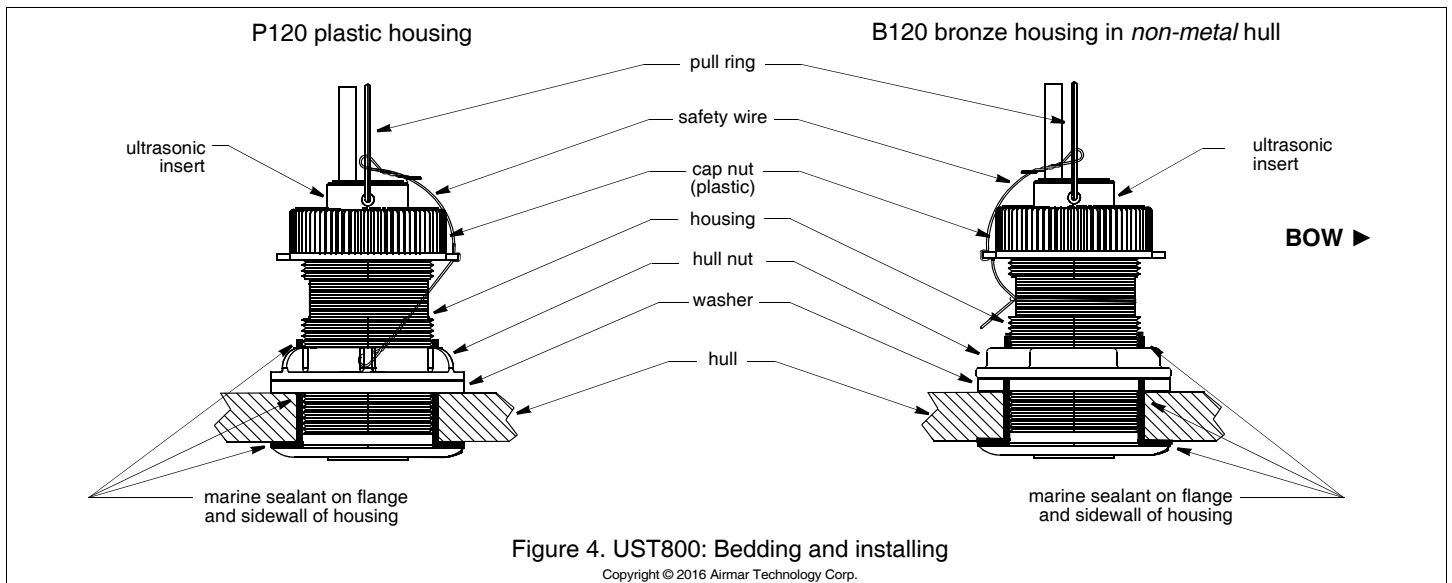

Figure 4. UST800: Bedding and installing
Apply a 2mm (1/16") thick layer of marine sealant around the flange of the housing that contacts the hull and up the sidewalls of the housing (Figure 4 or 5). *The sealant must extend 6mm (1/4") higher than the combined thickness of the hull, washer, and hull nut.* This will ensure there is sealant in the threads to seal the hull and to hold the hull nut securely in place.
1. From outside the hull, push the housing into the mounting hole using a twisting motion to squeeze out excess sealant (Figure 4 or 5). *Align the arrow on the flange of the housing pointing forward toward the bow.* If the sensor is not installed on the centerline, angle the housing slightly toward the centerline to align it with the water flow.
**UST800** (Figure 4)
1. Remove the ultrasonic insert from the housing by removing the safety wire from the pull ring and the cap nut. Unscrew the cap nut (Figure 4).
4. Reattach the safety wire to prevent the blanking plug from backing out in the unlikely event that the cap nut fails or is screwed on incorrectly (Figure 4).
2. Remove the ultrasonic insert from the housing (Figure 4).
5. Slide the blanking plug into the housing. Seat it into place with a pushing twisting motion until the key fits into the notch in the housing. **Hand tighten** the cap nut. Do not over tighten. Reattach the safety wire (Figure 4).
9. Reattach the safety wire to prevent the ultrasonic insert/blanking plug from backing out in the unlikely event that the cap nut fails or is screwed on incorrectly (Figure 4).